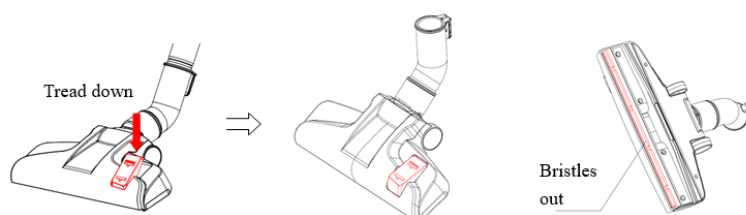

Fig.13
4. As in fig. 13, tread on the pedal of the brush tool to let the bristles out, and you can clean the floor.